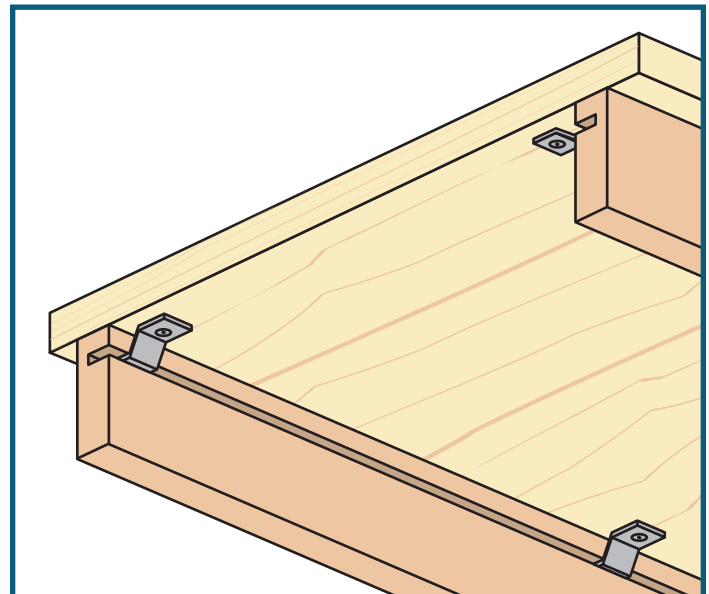

Fig. 1
3. Determine how many Tabletop Fasteners you will need and where you want them. (Typically, they should be spaced 8" - 10" apart.) If your tabletop is solid wood, you need to pay attention to the grain direction; wood expands and contracts across the grain with changes in humidity, but not along the grain. You should install Tabletop Fasteners only on two sides of the table frame, and they should run parallel to the grain. **Fig. 1.** That way, the tabletop is free to expand and contract without binding or cupping.